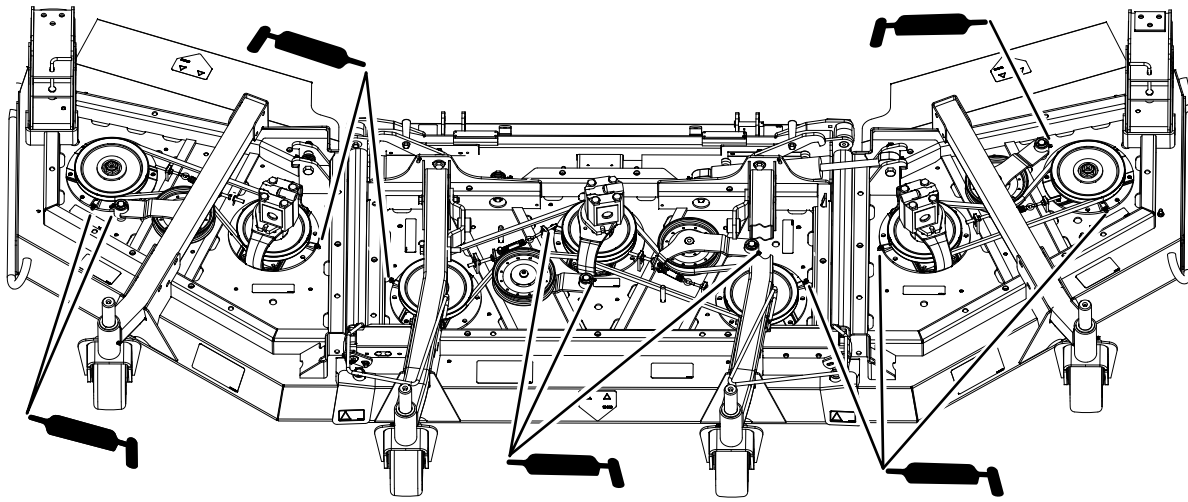

Figure 51
- 3 spindle-shaft bearings—located under the pulley (Figure 51)
- 2 idler-arm-pivot bushings (Figure 51)